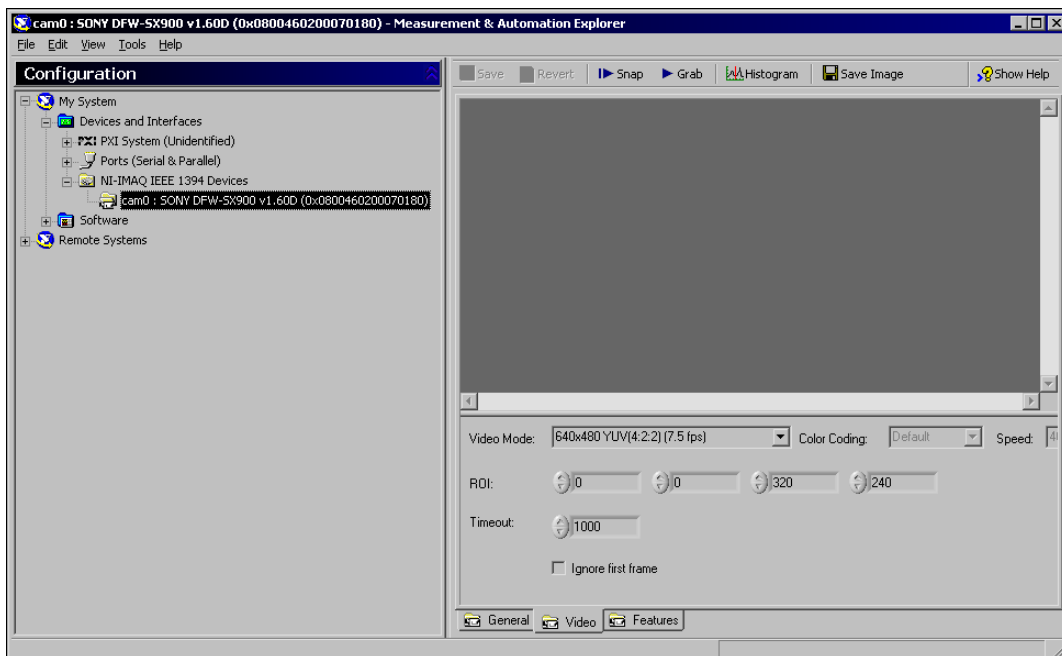

Figure 2. Setting the Camera Properties
- d. Select the camera from the menu. You then can view or modify the camera features from the **Properties Panel** located below the image viewer, as shown in Figure 2.